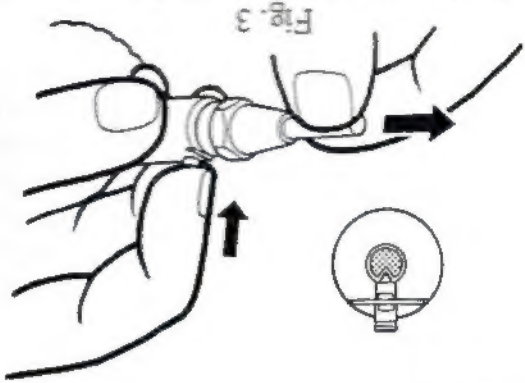
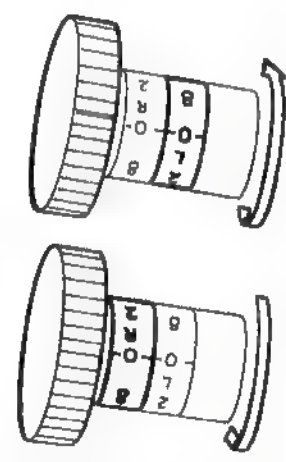

Fig. 3
Fig. 10
located pin (43) by which your dops are held firmly in position. Refer to figure 3. On previous models of the machine when fitting a dop into the handpiece, slide the dop into the collet chuck, adjust the hex headed nose piece to enable the dop to slide neatly in without binding, slowly turn the dop to bring the VEE machined in the dop uppermost, adjust the cone pointed locating screw (43) so that the dop can be slid into the dop arm. Carefully turn the screw in, using an allen (hex) key to enable the dop to be held firmly, do not overtighten using the spanner provided tighten the collet (44) firmly. There is no need, ever, to tighten the locking screw or the collet more than firmly. If the locating screw is overtightened it can cause the dop to be kicked sideways of centre. The collet is used to centre the dop in the arm. The locating pin, as the name implies, is to locate the dop radially in relation to the index wheel. It also allows the stone to be transferred accurately from one dop to another.
When you have completed the preform place the dopped stone in your freezer and in a short while the stone will have popped off the dop. Clean away the excess wax with a hobby knife, clean with metho again. Select a plain end dop stick about 1/4 diameter and clean with metho. Paint shellac metho solution onto both, dop stick and stone table with a touch up brush. Do not touch this area with your fingers. Warm stone on warming oven, and with dop stick held in a wooden handle, also heat dop stick until solution on both stone and dop stick bubbles and begins to dry. With flame on the dop stick stem, hold wax stick on top of the dop until a small amount of wax melts onto the surface required. Immediately push warm stone and dop stick together. Position stone with wetted fingers so that a flat on the girdle is in line with the groove in the dop stick. Mould any excess wax onto stone keeping fingers wet. Wax can be reheated for readjustment of the stone. As soon as it is cool, you are ready to start cutting. Loosen the hex nut on the handpiece and slide the dop into the dop arm. Locate dop with pin as in Fig. 3. Firmly close collet nose piece (hex nut). Now with spanner provided and pressing on locating pin, tighten the nose piece. It only has to be firm, you are not trying to pull down the bolts on a cylinder head on a car. Set your cheater at '0'. To digress for a moment, Gemmasta now have their right hand and left hand scales on the cheater dial marked R and L as in Figure 10. This is very useful for recording. As you cut your stone it is advisable to keep a record. If perhaps you have to cheat a little
If it is necessary to use the cheater, lift the handpiece and look at the actual cullet line, the facet line above should be parallel to the cullet line, the line above that should be parallel to both. If there is a variation look at the illustrations Fig. 10 and 11 and it will explain the rotation of the cheater. You must become acquainted with the use and result of that use of the cheater. With the handpiece raised you decide the direction to rotate the vernier on the cheater. If you move the TOP of the knob away from you the cut will be on the right side of the facet **LOOKING AT THE FACET**. The opposite applies. Feed in a little of the cheater at a time and check again taking the lightest of cuts. Mark down how much you have cheated to establish the parallel and on what angle and index. Don't rely on your memory. Measure the height of the pavilion.